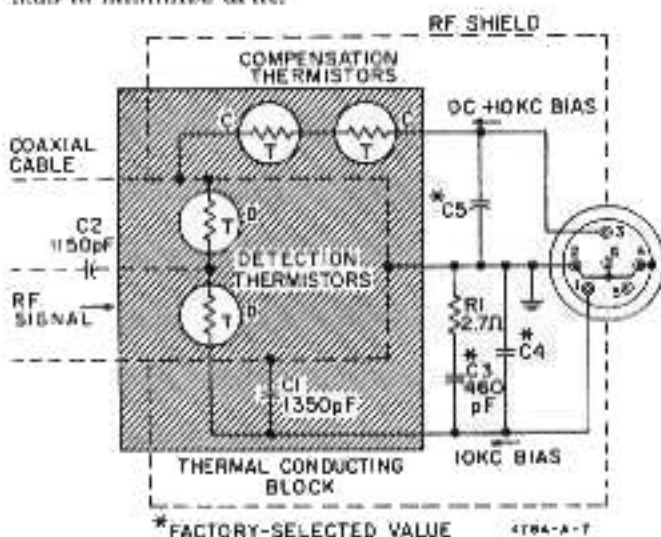

Figure 5. Schematic Diagram Model 478A Thermistor Mount
28. Note that some 10-kc bias signal is coupled into the RF transmission system by C2 (Figure 5). If the RF source output impedance at 10 kc is 15K ohms or greater, 10-kc bias voltage is typically 1.3 v RMS and could equal 1.5 v RMS. For an RF source output impedance of 50 ohms at 10 kc, bias signal voltage is typically 5 mv RMS.
45. Two matched series thermistor pairs are mounted on a common thermal conducting block, represented by the shaded rectangle in Figure 5. One pair, marked D for detection, is mounted between the end of a coaxial cable and a cylindrical cavity. These thermistors are exposed to incoming RF power which heats them, lowering their resistances. The other pair, marked C for compensation and situated immediately outside the cavity, is completely shielded from RF. With the Model 478A attached to a Model 431 Power Meter, the detection thermistors are part of the RF bridge and the compensation thermistors are part of the metering bridge. Since the two pairs of thermistors share the same thermal environment, any change in temperature which affects the RF bridge simultaneously affects the metering bridge, thereby allowing the power meter circuit to compensate for changes in temperature, and thus to minimize drift.
48. Under normal operation, the total power supplied to heat thermistor pair D (see Figure 5) consists of: 1) RF signal, 2) 10-kc bias, and 3) heat from the environment. The total power supplied to heat thermistor pair C consists of: 1) DC bias, 2) an equal amount of 10-kc bias, and 3) heat from the same environment. As D and C are matched thermally, the total amounts of heat applied to reduce their series resistances equally must be equal. Restating the foregoing algebraically: under normal operation